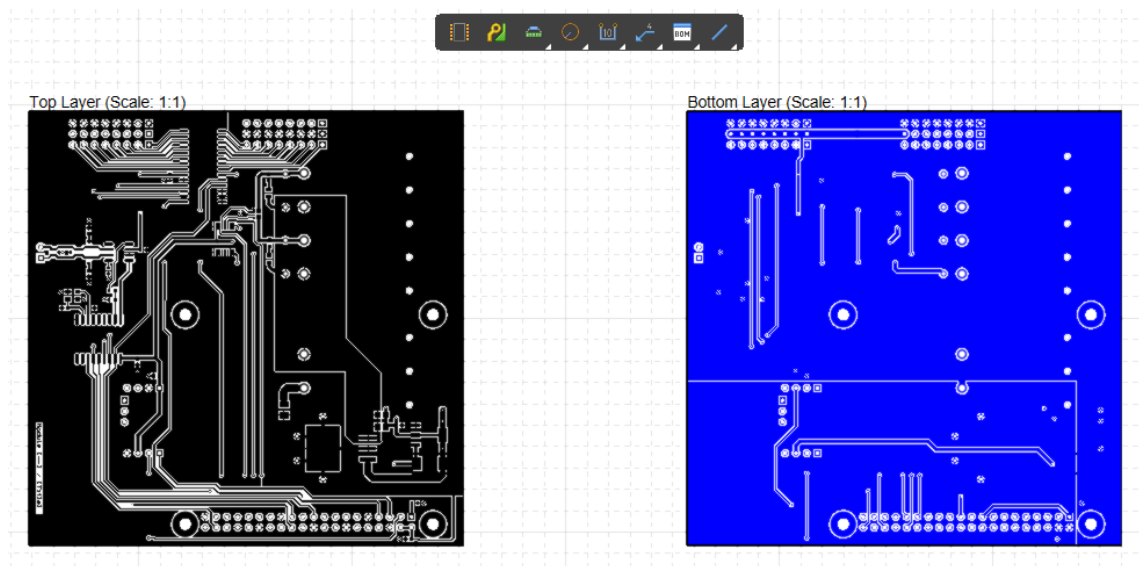

Figure 12. Fabrication View - TOP and Bottom layer
- d) Your view should now look like the example seen at Figure 12.